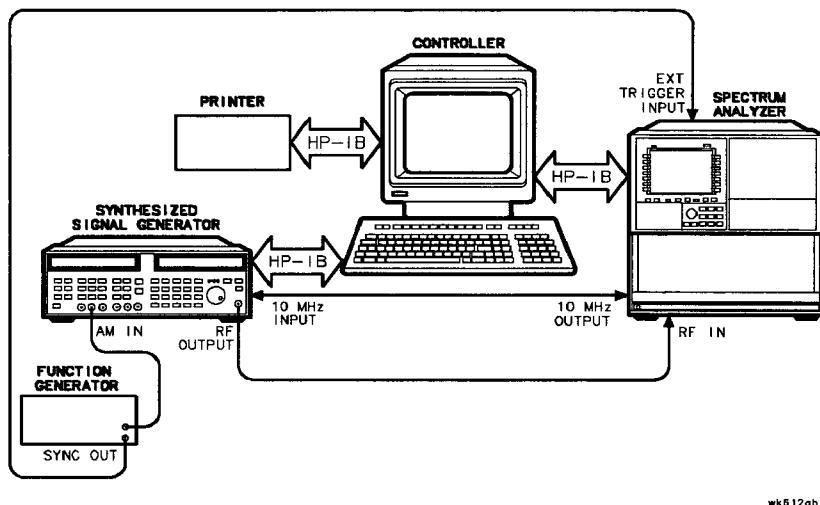

Figure 7-13. 0.01—1 GHz AM Calibration Equipment Setup
1. Set up the equipment as shown in Figure 7-13.